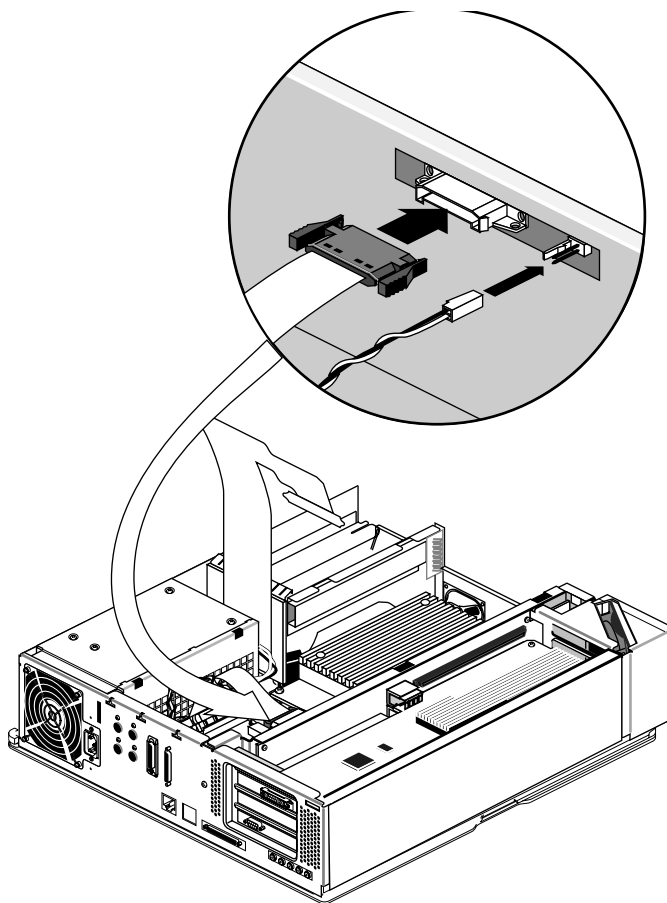

Figure 3-13 Connecting the Midplane Power Cables
11. Reconnect the power cable and twisted pair cable to the gold-colored midplane. See Figure 3-13.